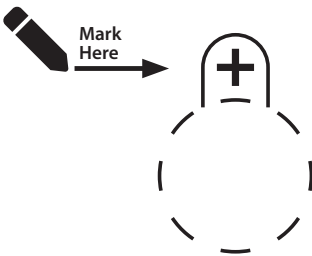
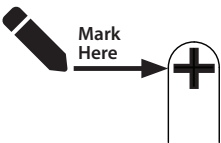

FIG. 2a
FIG. 2b
- 2** Place a mark through the Template's (P) paper at each indicated crosshair (at least two keyway holes from opposite ends), then remove the Template from the wall [FIG. 2a] [FIG. 2b].